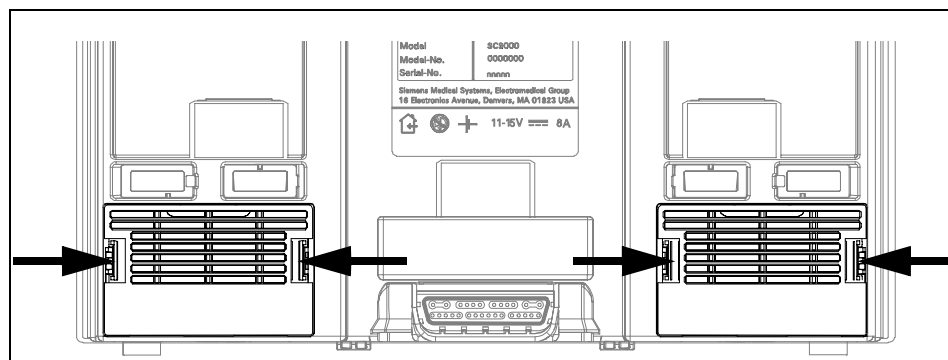

Fig. 3-1 SC9000 Rear View - Ni-Cd Battery Compartments - Release Tabs for Compartment Covers
The Ni-Cd batteries are contained in two compartments accessible from the rear of the monitor. Compartment covers are secured to the rear housing by flexible plastic locking tabs. Remove the covers to access the batteries. See Fig. 3-1 and also Fig. 3-13.
- 1) To remove Ni-Cd battery compartment covers, squeeze tab pairs together in direction of arrows shown in Fig. 3-1, and pull covers straight out from rear housing.